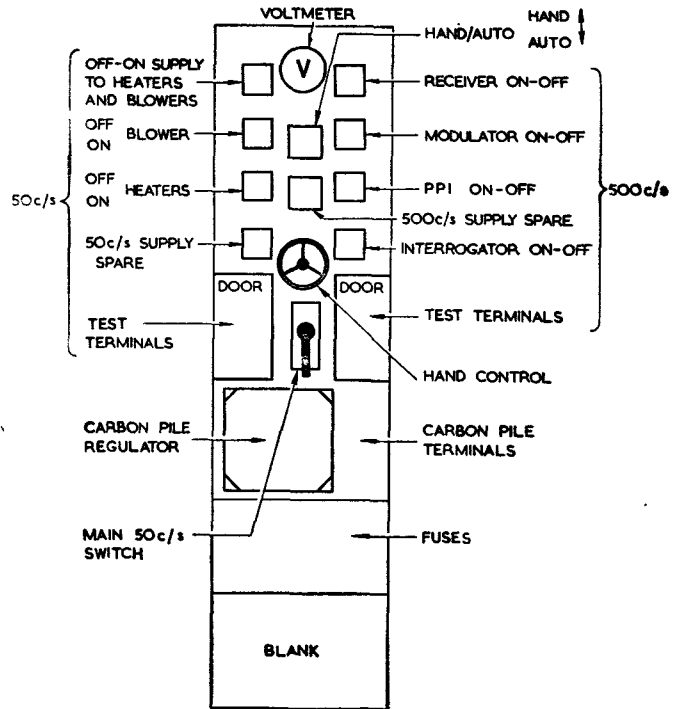
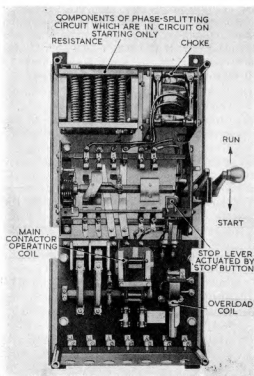

Fig. 4. Switchboard
Fig. 5. Starter panel
Switchboard and starter panel (fig. 4 and 5)
- (3) Hold down the handle at the right-hand side of the starter panel (fig. 5). If it will not go down, press the red button to release the handle. When the motor reaches full speed (after 30 sec. to one minute) push the handle smartly upward into the RUN position. The voltmeter (fig. 4) should now read 180V; if it is high or low, adjust the voltage regulator by means of the control on its front panel. Automatic regulation should normally be employed, but in the event of failure, use hand regulation as follows:—
- (4) Switch on the following:—